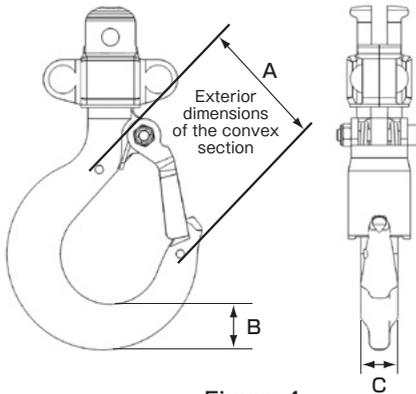

Figure 4
- (1) Measure dimensions A, B, and C in Figure 4 below, and record the actual measurements at the time of purchase. Although limit dimensions may also be determined based on the reference standard values, it should be noted that there will be some dimensional errors due to the forging process.
- (2) If any of dimensions A, B, and C have reached the indicated limits, replace the hook with a new one.
- (3) The opening of the hook will expand in the event loads exceeding the rated load are applied to the mouth, or if a concentrated load is applied to the tip section.
- (4) Hooks with expanded openings lose their original strength and shock-absorbing capabilities, and should be replaced upon exceeding the limit.
- (5) Never reuse hooks with expanded openings straightened by heating or repairing. Such attempts could cause extremely hazardous results. Hooks with flaws 1 mm or more deep or bent/twisted hooks should also be replaced.